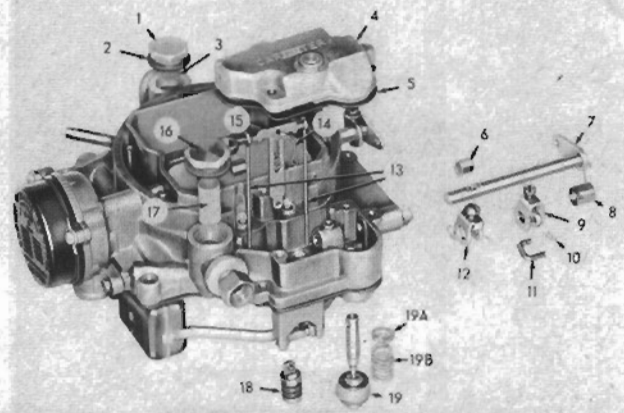
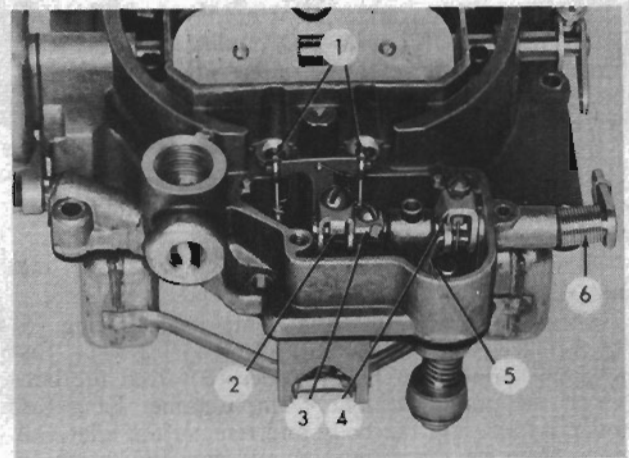

FIG. 86
FIG. 87
Remove the pin spring (10, Fig. 86) from the pump connector link (11), slip the link out of the pump shaft and arm, and remove the pump plunger (19), spring (19B), and retainer (19A) as an assembly. Loosen but do not remove the screw holding the pump arm (9) to the pump operating lever and countershaft (7). Loosen but do not remove the screw from the metering rod arm (12). On Goldenhawk models, remove the vent arm (3, Fig. 87) and screw. Using a tag wire, unwind the throttle return spring (8, Fig. 86). Withdraw the pump operating lever and countershaft assembly (7) from the air horn and slip the metering rod arm (12), spacer (6), and pump arm (9) off the shaft. Unhook the metering rod spring (14) from the rods and remove both metering rods (13) (by rotating them off the link).